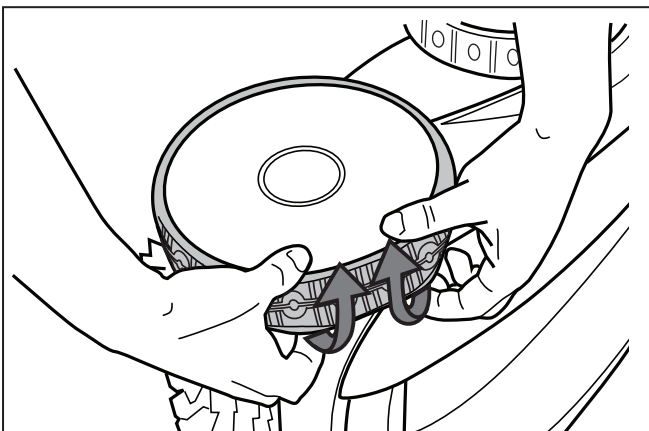

Figure 29. Pull the Track Over Wheels to Remove
1. Starting at one of the wheels, pull on the inside of the track to separate the tyre lip from the wheel. See Figure 29. Remove the old tyre from the cleaner.